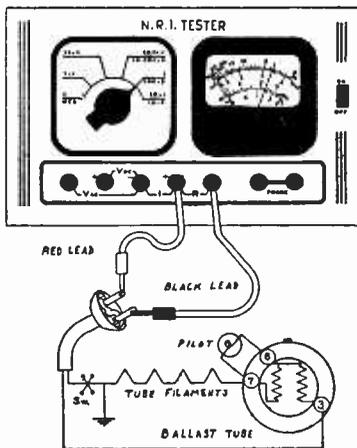

Fig. 5.
*First, remove the line cord plug from the power outlet and turn the receiver power switch ON so that the line switch will establish continuity between the line cord and the tube filaments. Make sure each tube (including the ballast tube) is firmly inserted in its respective socket. Now, hold the ohmmeter test probes on the prongs of the power cord plug as shown in Fig. 5. If the circuit is open, no reading will be obtained. You will, however, want to make one more test to prove conclusively that it is the cord.*